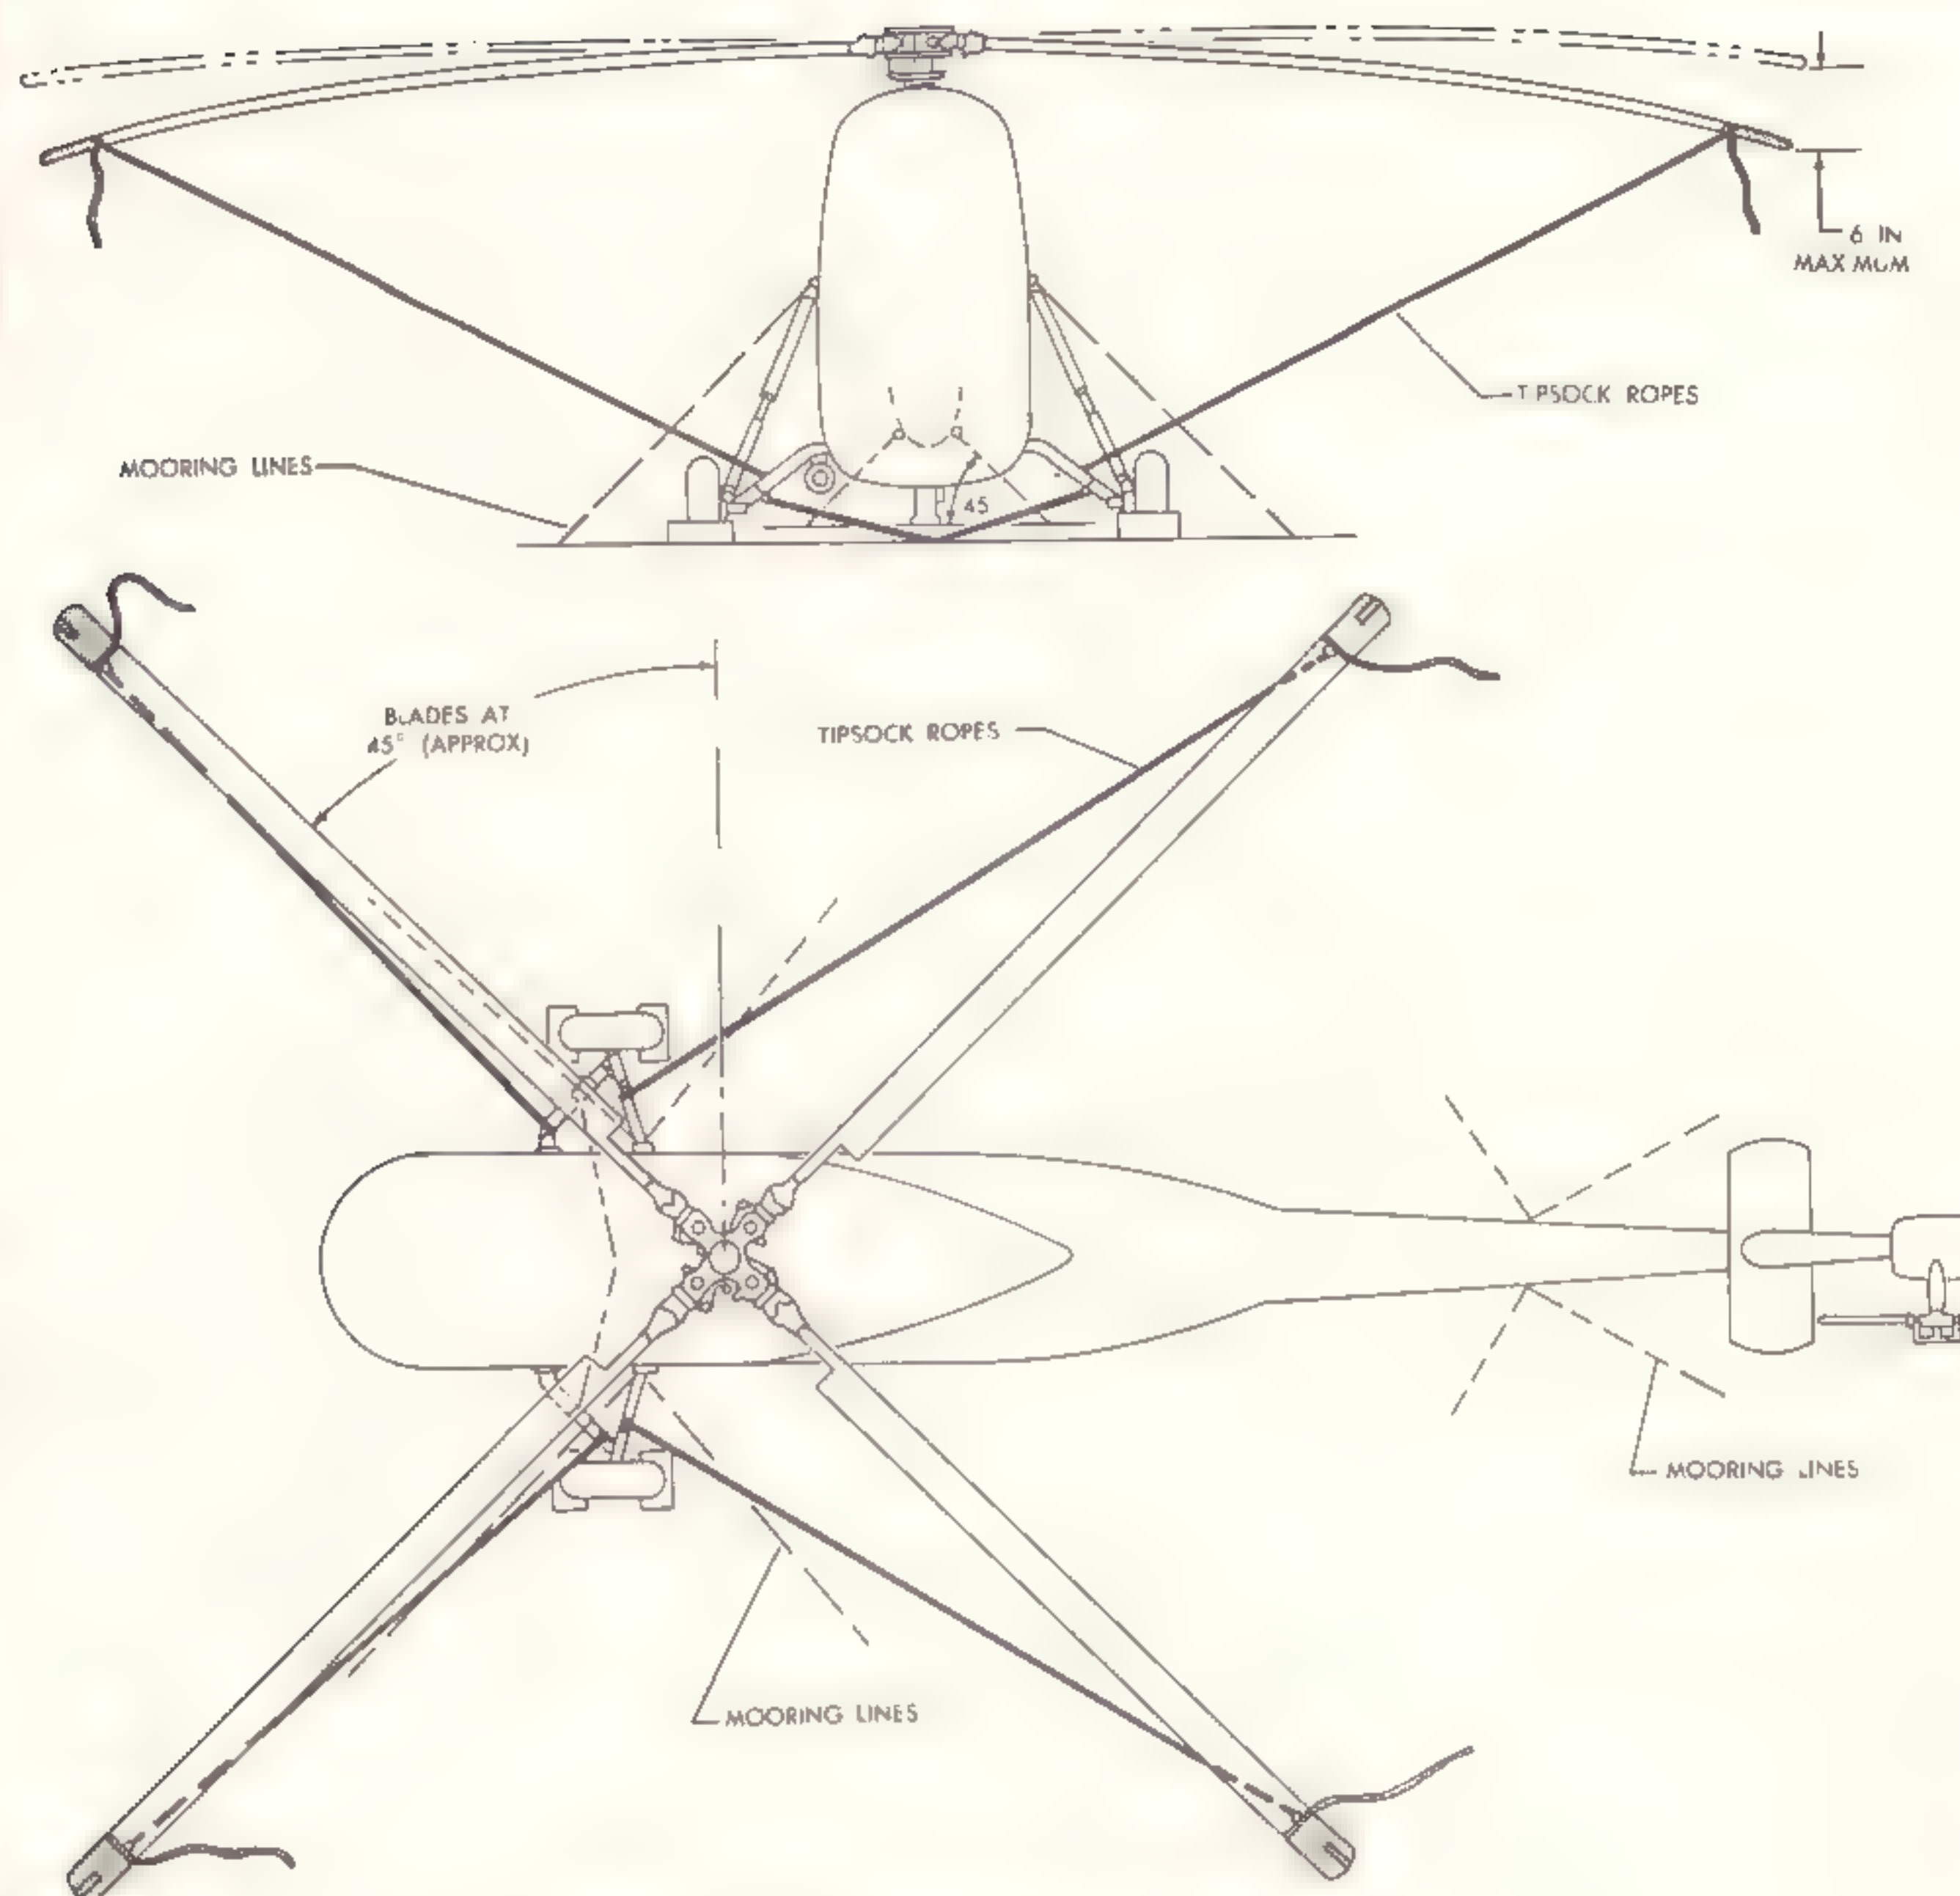

Figure 1-14. Mooring helicopter (blades in flight position)
a. Mooring {blades in flight position}. (see figure 1-14.) The following mooring procedure is to be used only in high winds. Continued daily use will result in bending of blades trailing edge tabs.
(1) Install protective covers as required. (Refer to paragraph 1-58.)
(2) Place collective pitch control in low pitch position and cyclic control stick in neutral. Set parking brake.
(3) Turn main rotor to position blades at approximately 45 degrees with longitudinal axis of helicopter. Lock main rotor with rotor brake.
(4) Secure mooring lines from mooring rings on helicopter to fixed moorings on field. Place wheel